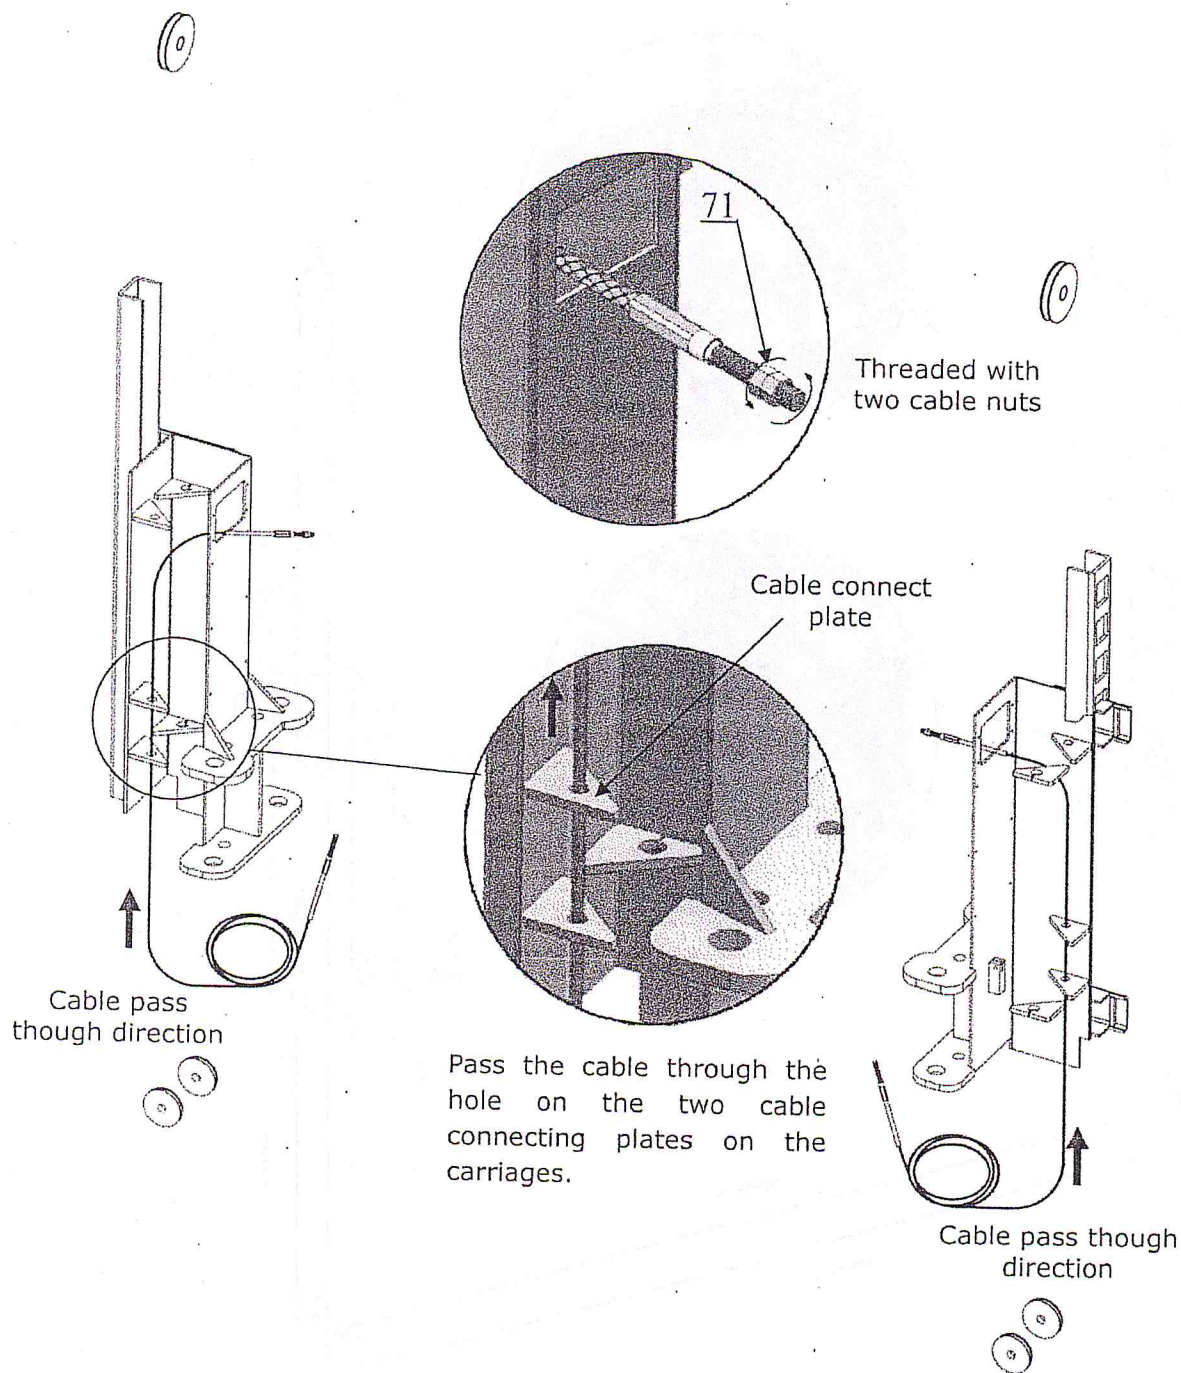

Fig. 20
2.1. Pass through the cable from the bottom to the top of the carriage, The fitting of cable pass through the hole of the carriages and be screwed with two cable nuts. (See Fig. 20).